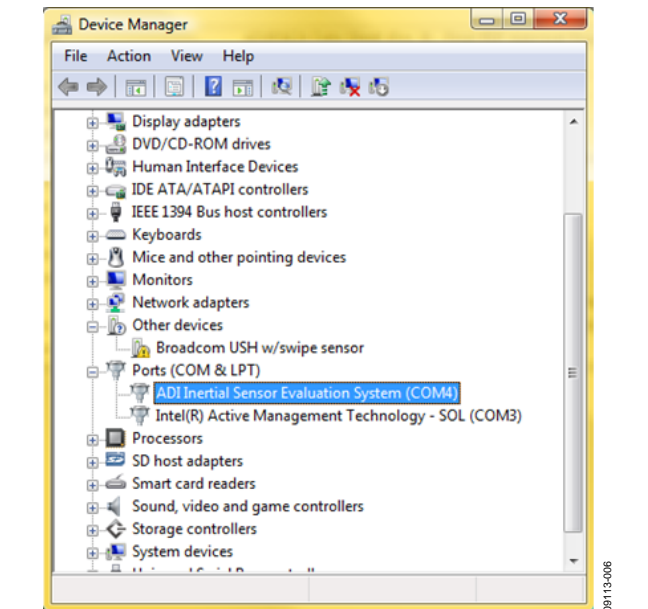

Figure 6. Device Manager Showing the COM Port Number
2. Underneath **Tasks**, select **Device Manager**. Windows Vista may request that you allow access to this panel, and administrative privileges may also be required. The window shown in Figure 6 should now open.
The **Device Manager** window should look like the window shown in Figure 6.